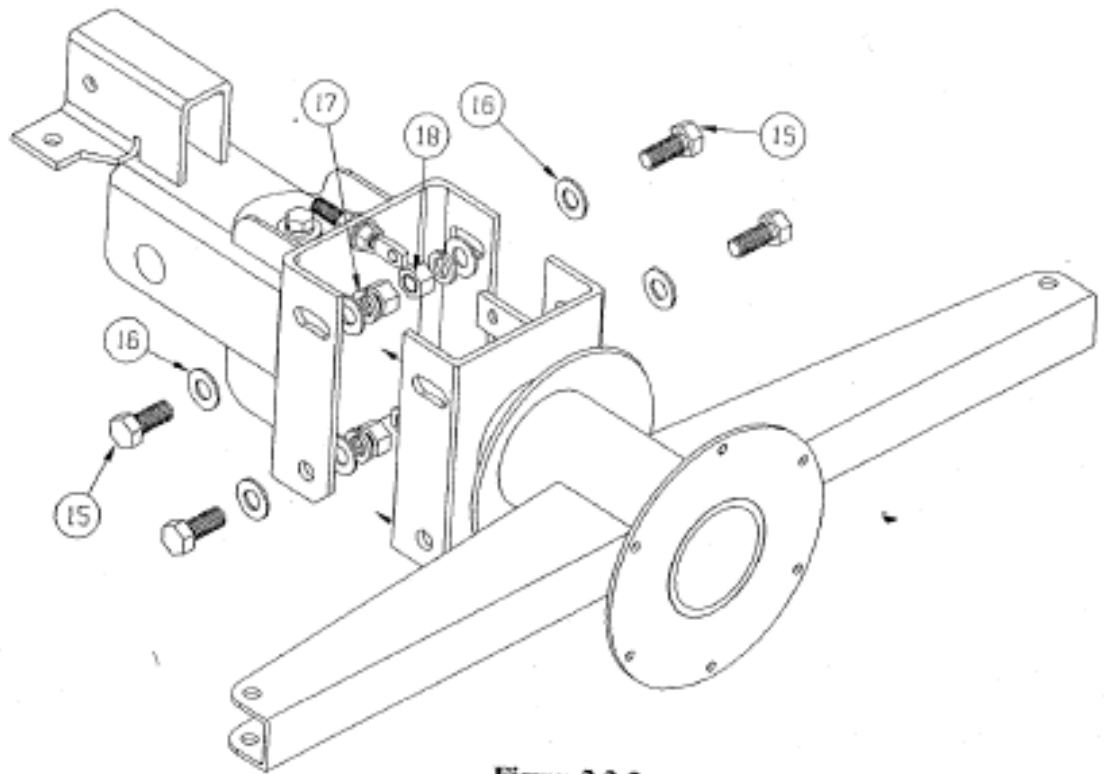

Figure 3.3-2
2. Swing the reflector up until the polar axis joint can be placed between the top bracket of the canister, as shown in figure 3.3-2. Align the hole in the polar axis joint with the hole in the canister and secure with the 1" hardware.
3. Raise or lower the reflector until you can place the elevation adjustment rod in the channel on the polar axis joint and secure with 1/2-13 x 3.00" bolts, flat washers, lock washers and hex nuts (item #'s 6,7,8,9) as shown in figure 3.3-2. Do not tighten these bolts until section 5.1.